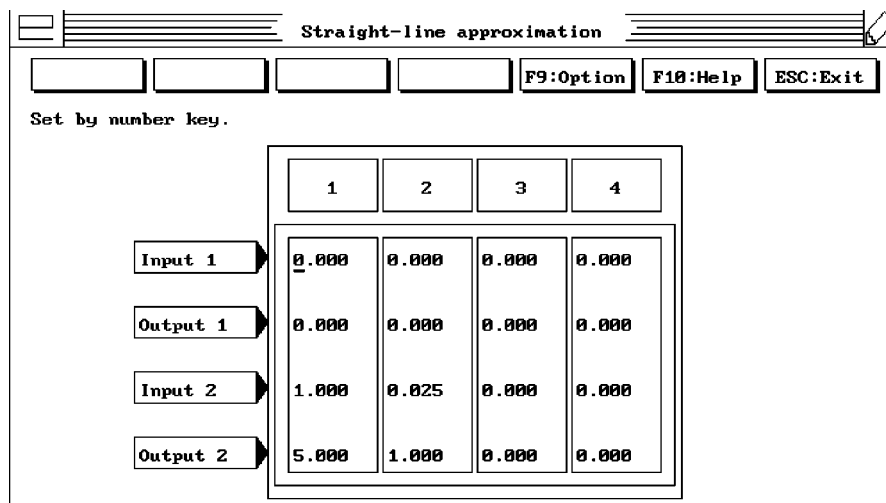

Figure 5
4. Select **SCL (straight-line approximation)** button. The **Straight-line approximation** menu (Figure 5) will appear. For the grout coloring example, you must complete the table exactly as shown.